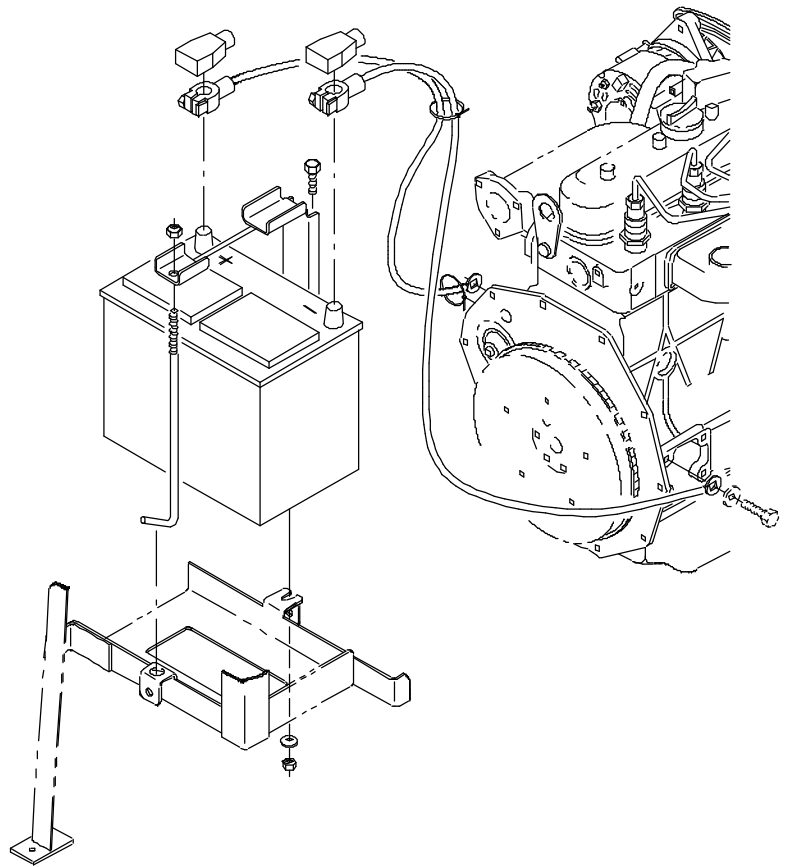

FIG. 2 - OLD BATTERY MOUNTING ASSEMBLY
2. Remove and discard the battery clamp-down assembly holding the battery in place. (Refer to FIG. 2)
3. Disconnect the battery from the machine. (Refer to FIG. 2)
4. Remove and set aside the machine battery. (Refer to FIG. 2)